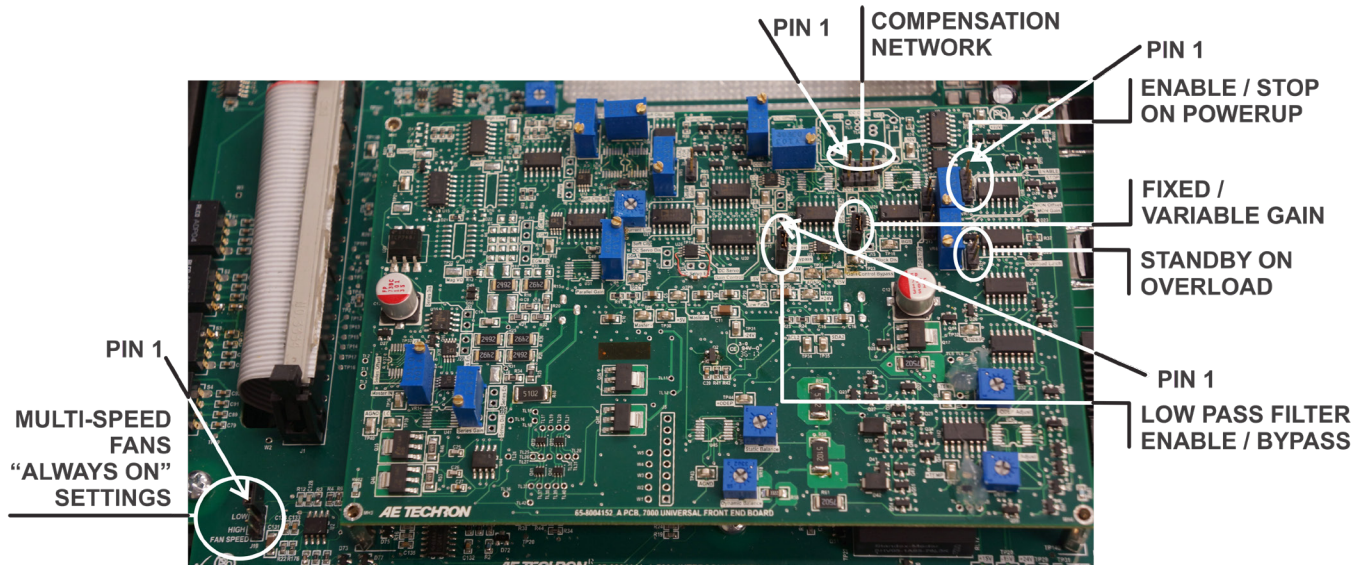

Figure 5.5 – UFEB and Interconnect Board Jumper Locations
Refer to **Figure 5.5** for UFEB and Interconnect board jumper locations.
To change the compensation network, locate the Compensation Network jumper (see Figure 5.5). When **pins 1 and 2** are jumpered (factory default), network **CC1** is enabled (75k ohm and 47 nF). To select network **CC2**, place the shunt on the jumper across **pins 2 and 3**.
Enable/Stop jumper (default setting). See Figure 5.5. To cause the 7228 amplifier to enter **Standby (Stop Mode)** on power-up, place the shunt across **pins 2 and 3**.
The 7228 amplifier ships with an enabled Gain Control knob, which is located on the amplifier front panel. To disable the **Variable Gain** control and set for a **Fixed Gain**, locate the Gain Control Bypass jumper and place a **shunt across the two pins** at that location. See Figure 5.5.
The 7228’s IOC (Input/Output Comparator) Distortion Alert circuit continuously compares the waveforms observed at the amplifier input and output. When a distortion between the two waveforms of more than 0.5% occurs, the IOC circuit will activate, and the Overload LED will light, but the amplifier will continue to operate. To configure the 7228 to move to **Standby (Fault mode)** when the IOC circuit is activated, locate the Overload Latch (see Figure 5.5) and place a shunt across the two pins of the jumper.
To enable the low pass filter, locate the Low Pass/LP Bypass jumpers (see Figure 5.5) and move the shunt from **pins 2 and 3** (LP Bypass) and place across **pins 1 and 2** (Low Pass).
3. Locate the Fan Speed Jumper (**J19**) on the Interconnect Board (see **Figure 5.5**).